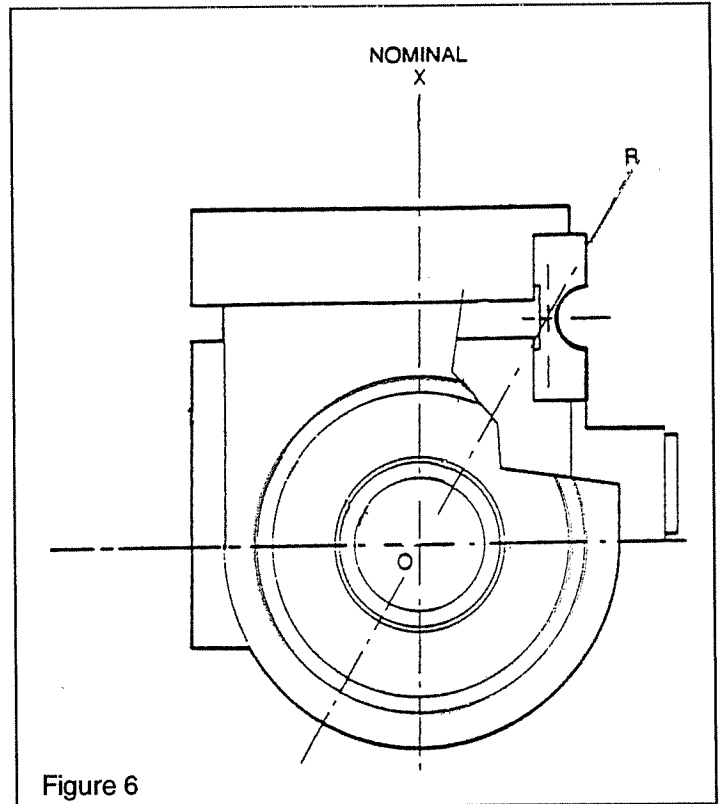

Figure 6
2. With one end of the rope secured, hang a known weight, equally over the roll so that the total tension is equal to the maximum strip tension specified on the calibration sheet, at the other end. (See Figure 6.)